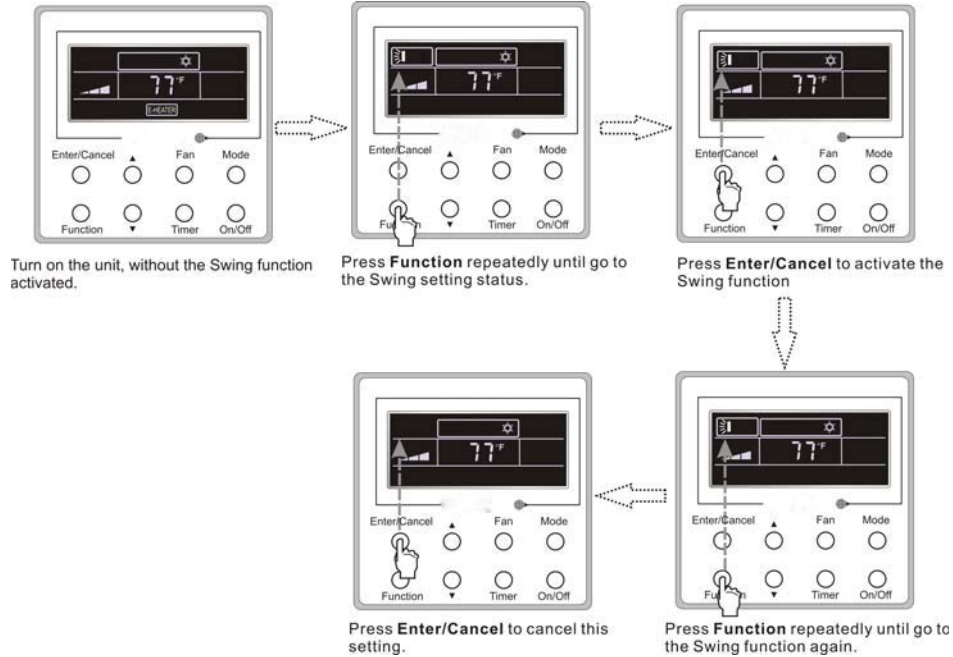

Fig. 13 – Swing mode
- SWING OFF:** When the **SWING** function is on, press **FUNCTION** to enter the **SWING** setting interface . Next, press **ENTER/CANCEL** to cancel the function (see Fig. 13).